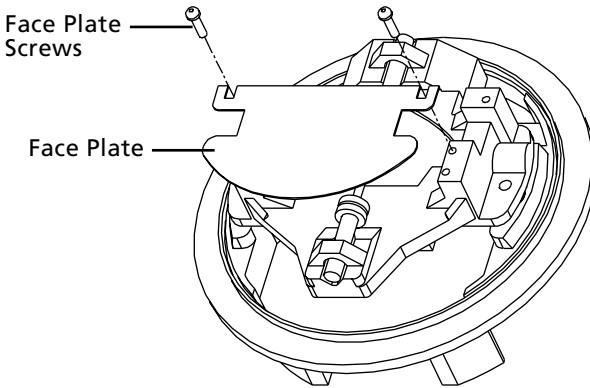

Figure 17. Removing Face Plate
2. Remove the face plate screws and face plate. See Figure 17.